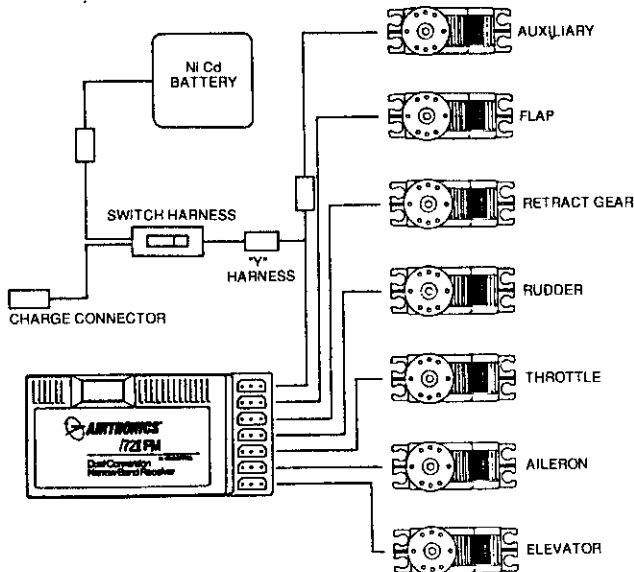

FIGURE 2
6. Figure 2 shows how to connect the components of your system together. Note the servo and switch harness plugs are inserted in the receiver so that pin 3 is towards the bottom side of the receiver. A "Y" harness must be used to connect the auxiliary channel servo and switch harness. At this point, your objective is to get the system operating on your workbench. Once connected, you must then refer to the corresponding diagram for your system (Figure 3), showing the transmitter control sticks' function. Units are manufactured on Mode I as well as Mode II, with Mode II being the most popular.